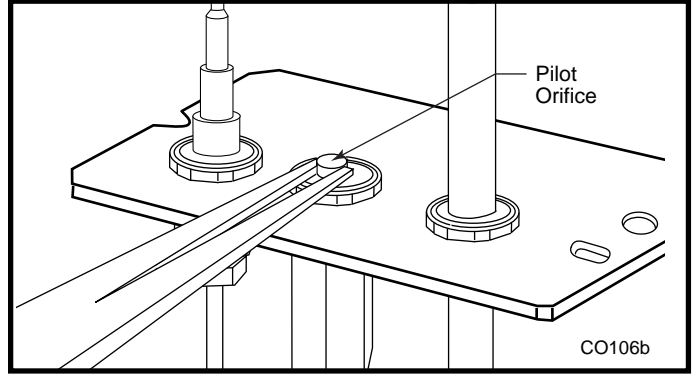

Fig. 57 Remove pilot orifice.
- Remove pilot orifice with needlenose pliers. (Fig. 57)